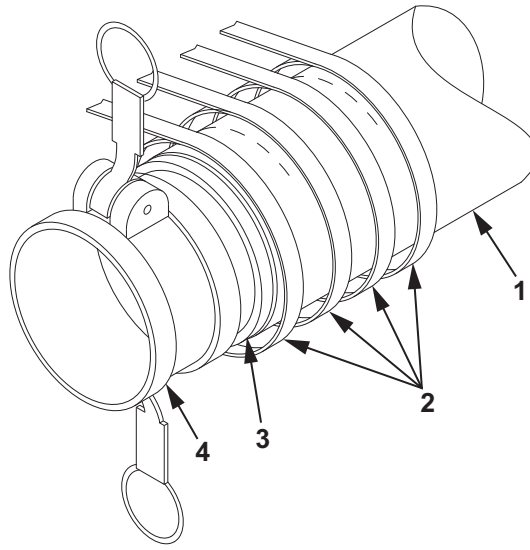

Figure 4. 4 In. Discharge Hose Repair.
10. Place four clamps (Figure 4, Item 2) loosely on the hose assembly (Figure 4, Item 1).
11. Install female coupling half or male coupling half (Figure 4, Item 4) into hose assembly (Figure 4, Item 1) until it is flush with the machined stop (Figure 4, Item 3).